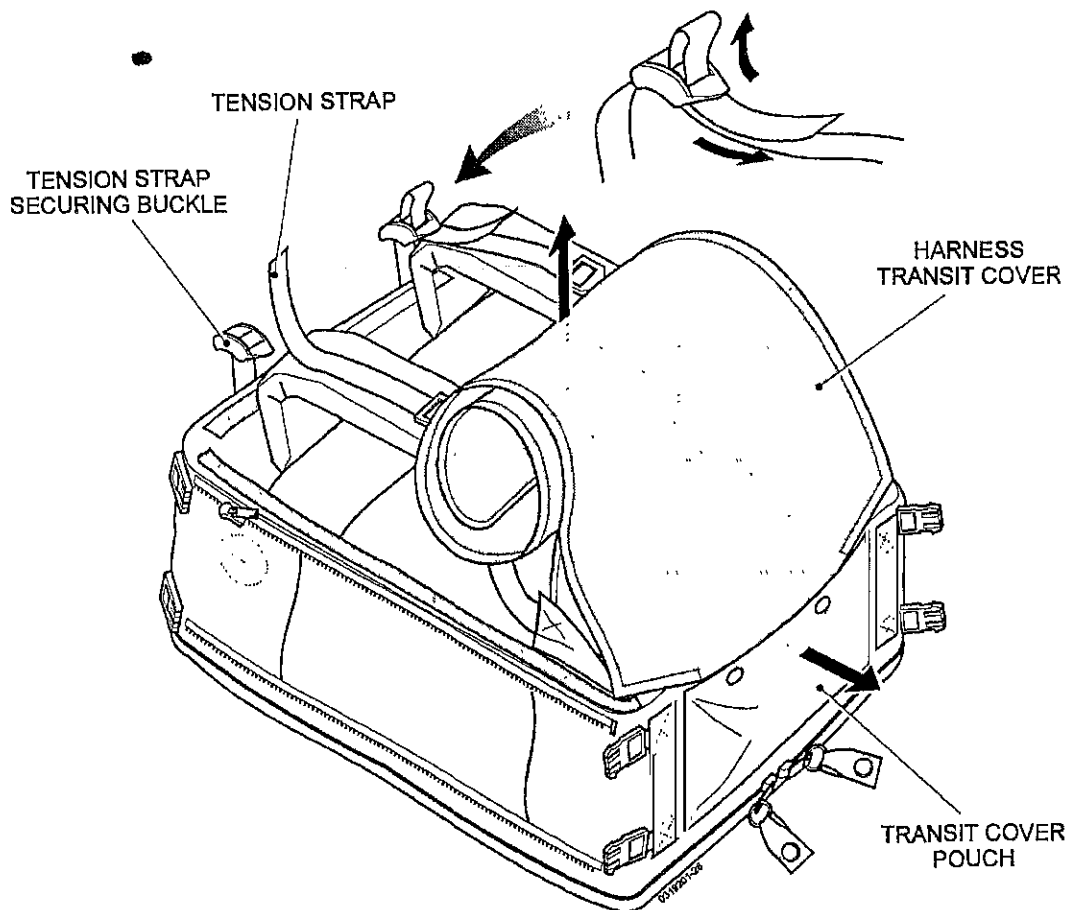

Fig 15 Manpack station - releasing the transit cover and tension straps
72.8.1 Refer to Fig 15. Lay the carry container with the shoulder harness facing up. Open the transit cover storage pouch and pull out the harness transit cover. Undo the shoulder harness top tension straps.